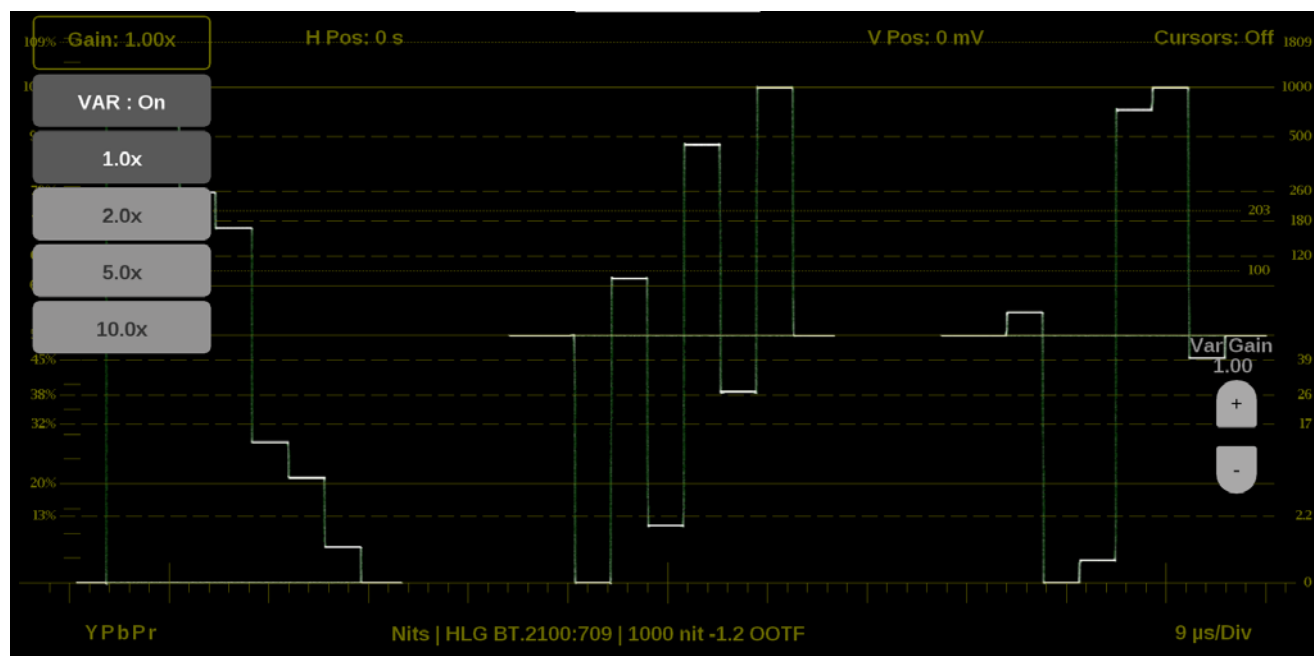

Figure 73: Waveform on-screen tools – Gain
1. Touch the **Gain** button to expand the available magnification options drop down list. (See Figure 73.)